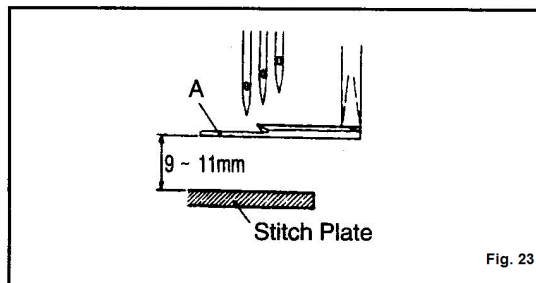

Fig. 23
Adjust the height of Spreader (A) above the stitch palte to 9 ~11 mm (Fig. 23).